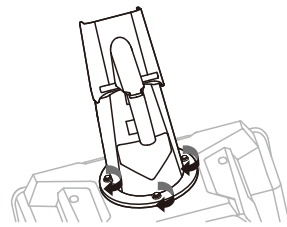

Fig.3B
3. Tighten the bolts with a Hex wrench. (Fig.3B)